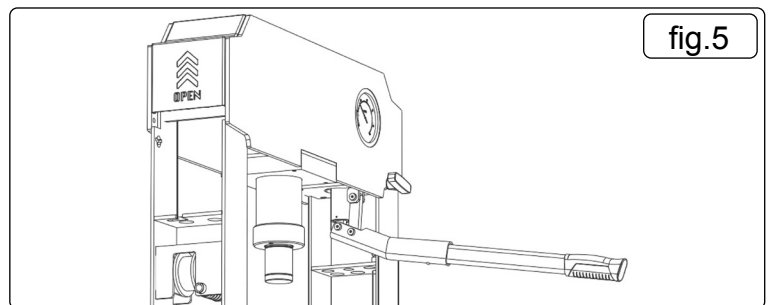

fig.5
4.2.3. Fig.5: insert handle 25.